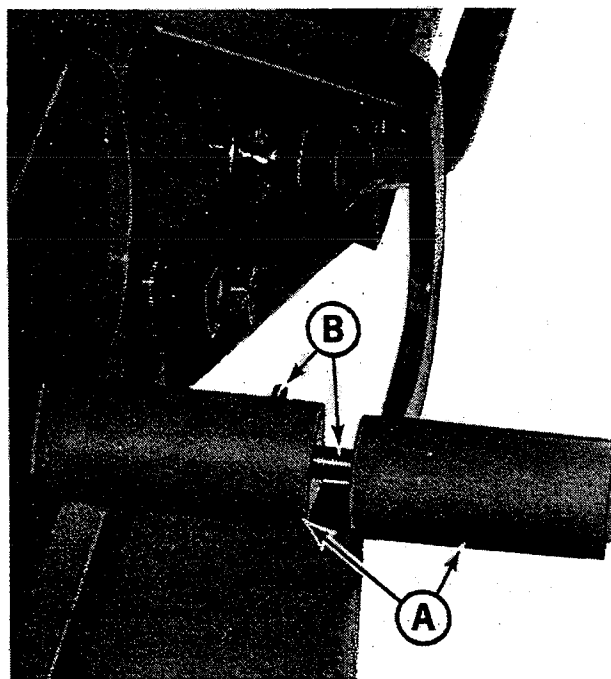

Figure 4. Brake pedals and locking pin on right side of tractor.
**BRAKES:** (Figure 4) **CAUTION: THE CLUTCH PEDAL MUST BE DEPRESSED TO GET EFFECTIVE BRAKING ACTION.** The tractor is equipped with individual disk-type rear wheel brakes. They should be applied simultaneously, except when required as an aid in turning. Simultaneous application may be accomplished by either placing your foot half on each brake pedal (A) and applying pressure to both at the same time, or by locking the two brakes together. To lock brakes together, move the sliding pin (B), located in the left brake pedal, to the right through the hole in the right brake pedal. The tractor should normally be operated with the brakes locked together. With the pin in place, the two brake pedals will move together to give faster and safer stopping. The brakes should also be locked together when the parking brake lock is used. See the following paragraph for information on the parking brake lock.